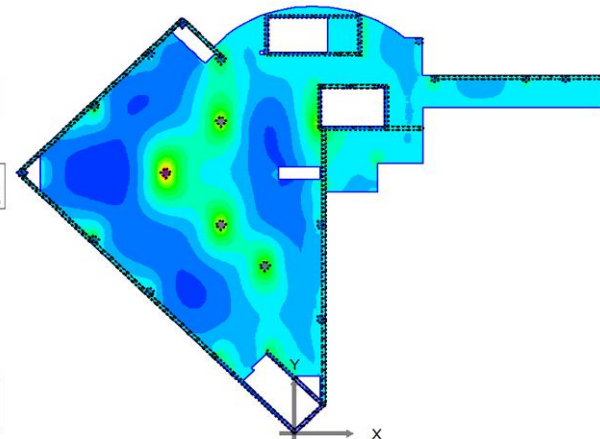

Figure 2: Moment distribution in x-direction (Mxx).
- The first stage, model generation, can be based on a building information model or both structural objects are defined using their engineering attributes. Model generation can also be based on data in DXF files. Figure 2 illustrates the boundary element discretization of a problem. As the figure demonstrates, very few boundary elements are required to obtain detailed results.